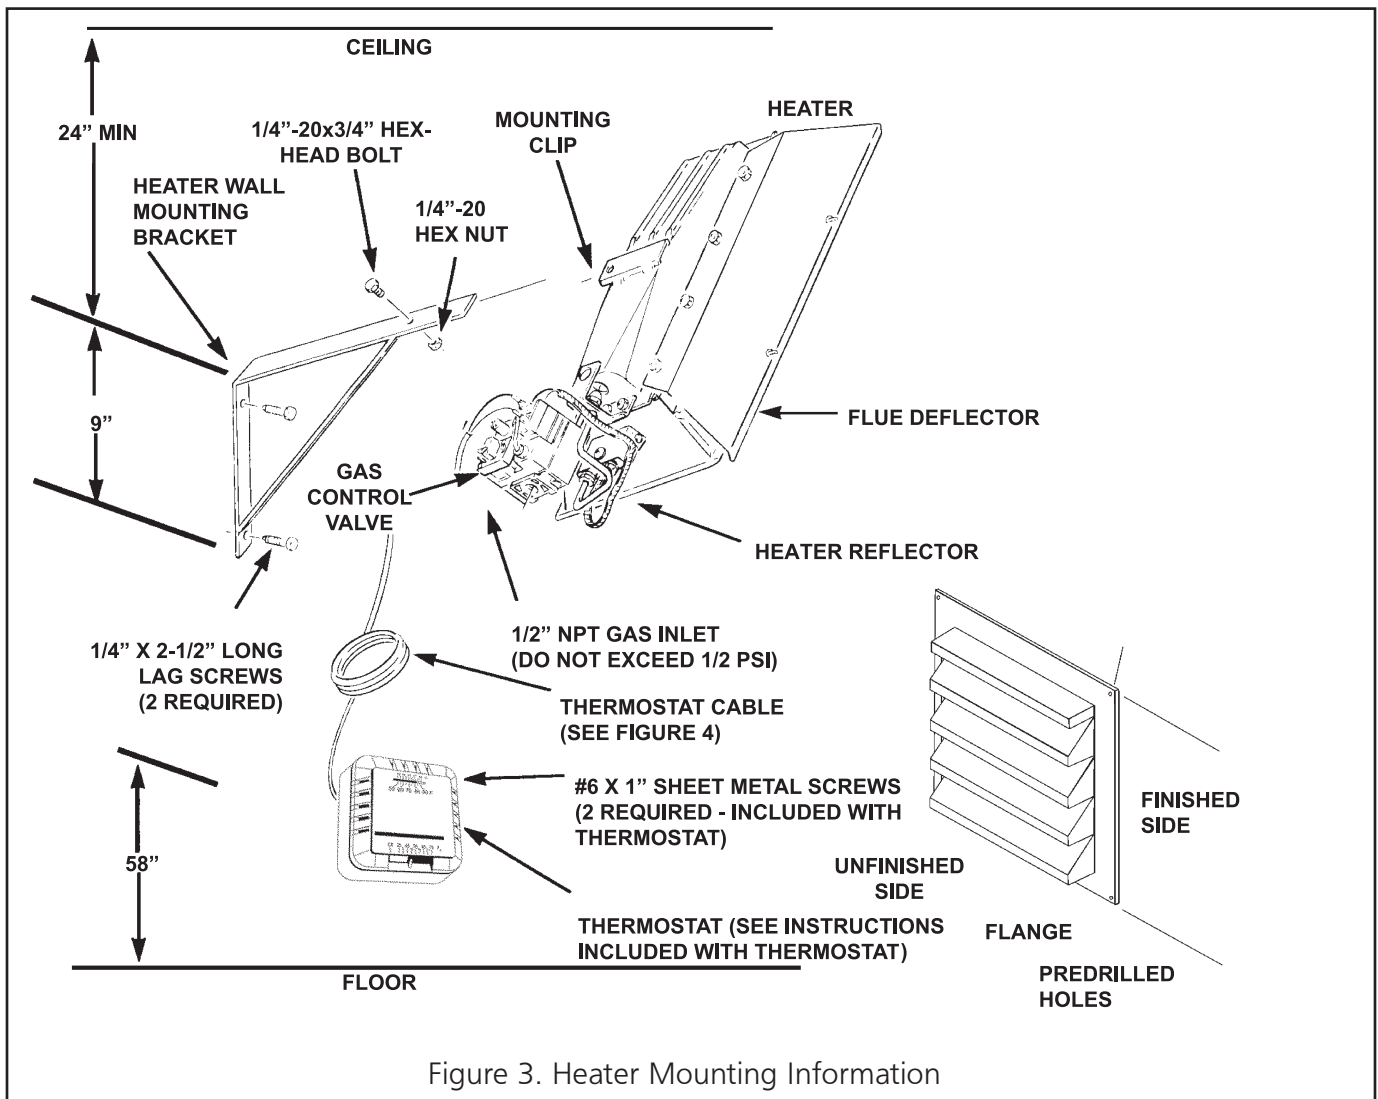

Figure 3. Heater Mounting Information
1. See Figure 3 for dimensions and information on the vent.
1. If the wall mounting bracket is to be attached to a stud and wallboard wall, refer to Figure 3 for dimensions, locate a stud, and drill two 1/8" pilot holes into the stud centerline. Use template
2. If the wall mounting bracket is to be attached to a brick or masonry wall, refer to Figure 3 for dimensions. Obtain two 1/4 inch (inside diameter) expansion anchors and determine the correct drill size to be used with them. Drill the appropriate size holes in the brick or masonry to accept the anchors.
- E. Position the heater as shown in Figure 3 and slide the heater mounting clip over the bracket and install the bolt through the clip and bracket.